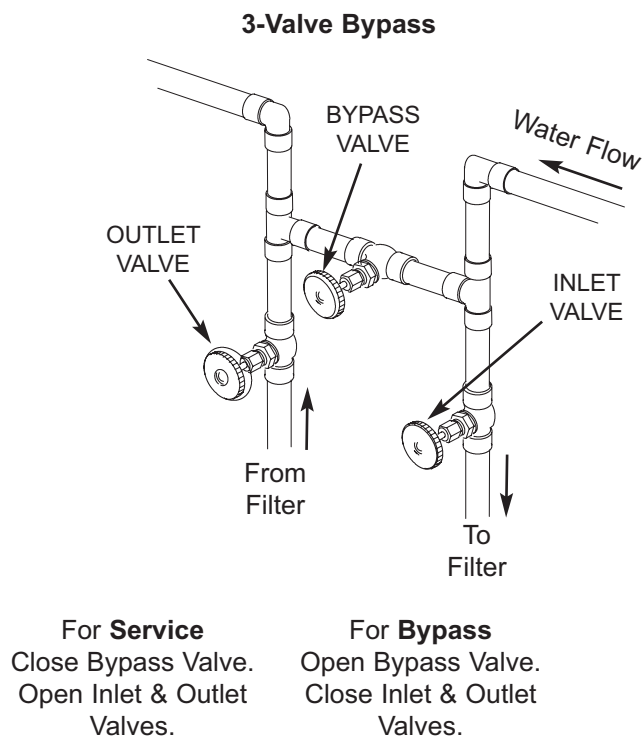

FIG. 96
(See Figure 96)
4. Are plumbing bypass valve(s) in service position (See Figures 96 & 97 on Page 30)?